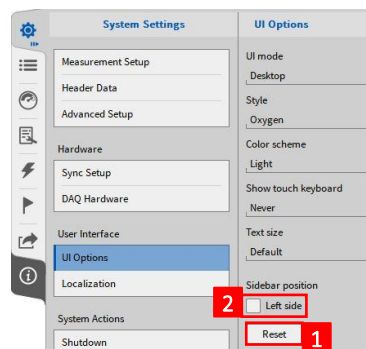

Figure 2-9: Sidebar position reset
- The user may find it difficult to place the menus back in the default order once a change has been made. To reset the position of your menus, head into *System Settings > UI Options* and select the *Reset* button found under the *Sidebar position* section (see ① in Figure 2-9).
- The user can also swap the right and the left sidebar. To do so, head again into *System Settings > UI Options* and select *Left side* under the *Sidebar position* (see ② in Figure 2-9).